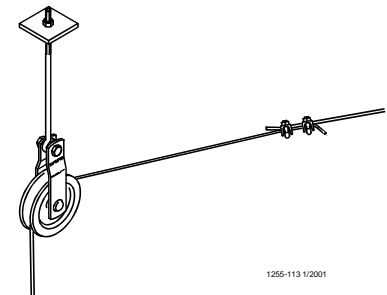
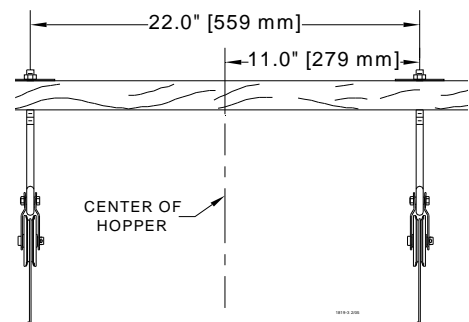

Figure 7. Steel Hopper Suspension
Figure 8. Plastic Hopper Suspension
- Feed Hopper Locations: **When steel hoppers with center suspension are used, see figure 7, the feeder line must be supported within 1' [30 cm] of the feed hopper. When plastic hoppers are installed only 2 point suspension can be used, see figure 8, this does not require additional supports.** This is in addition to the required Feeder Hopper suspension. After determining the type of suspension system required, decide where the Feeder Line is to be installed. Mark a straight line on the ceiling or rafters the full length of the Feeder Line. Use a string, chalk line, or the winch cable, temporarily attached with staples, to mark the line. Center the line directly over where the Feeder Line is to be installed.